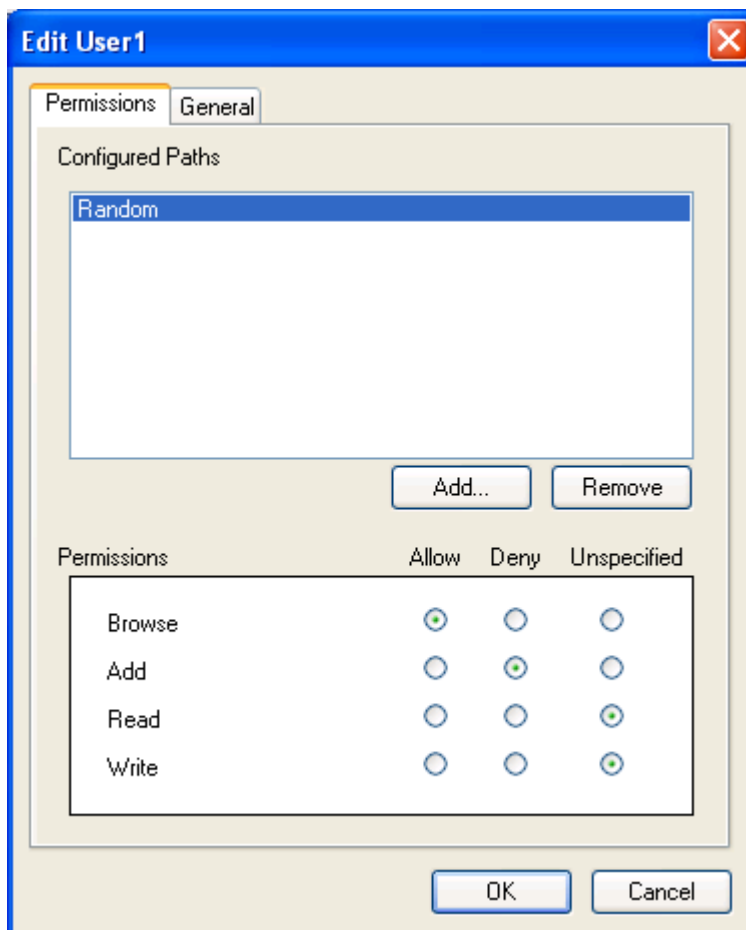

Figure 59 - Edit <Username>: Example
5. The selected path or item will be listed in the **Configured Paths** screen section of the **Edit User** window. Permissions can now be assigned, as in the example depicted in Figure 59.